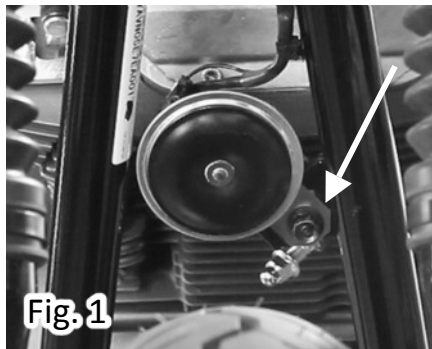

Fig. 1
- 1 Remove Bolt holding on horn. Fig. 1